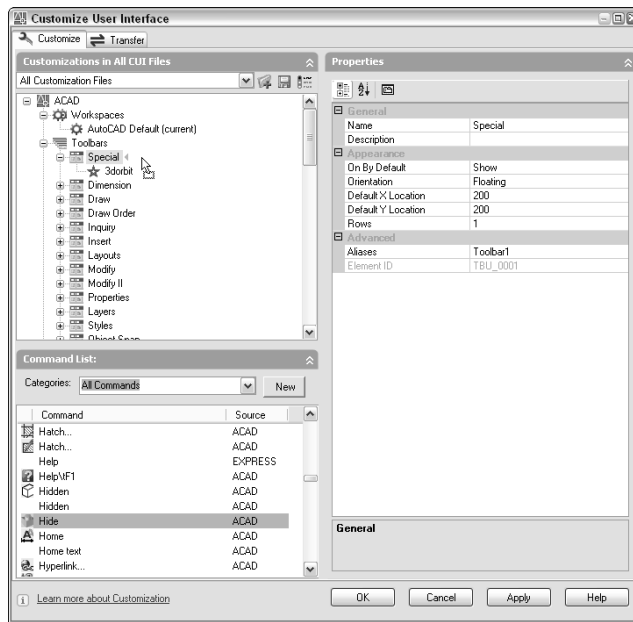

Figure 29-6: To add a button to a toolbar, you can drag a command from the Command List to a toolbar in the Customize User Interface dialog box.
4. Drag the command from the list to the toolbar item in the Customizations In pane until you see an arrow pointing to the toolbar, as shown in Figure 29-6.